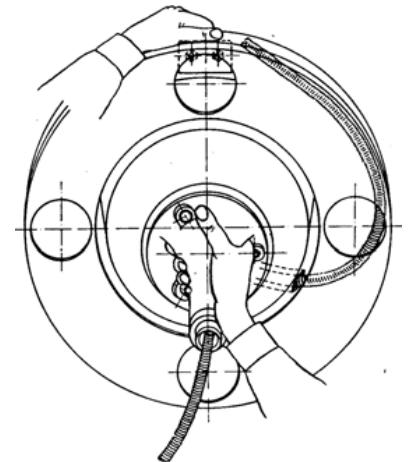

FIG. 7
4. Allow the inner drum to rotate freely in a clockwise direction as you feed sufficient cable through the distributor arm into the external drum to position the cable within the external drum as illustrated in Figure 7.